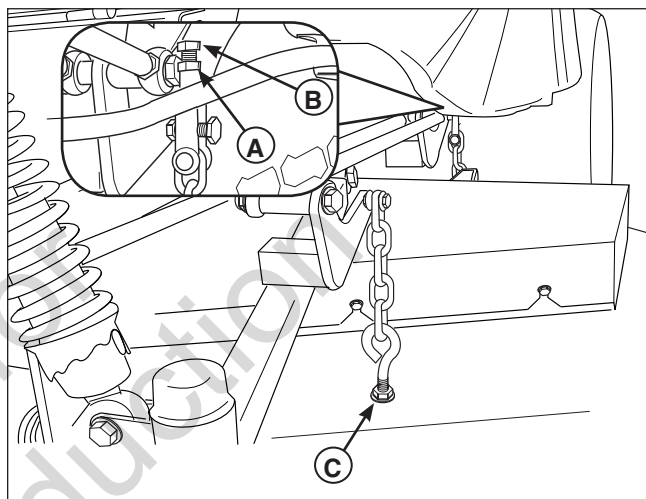

Figure 43. Deck Level Adjustment
3. Place 2 x 4 blocks under each corner of the mower deck with the 3-1/2" sides being vertical. See Figure 43.